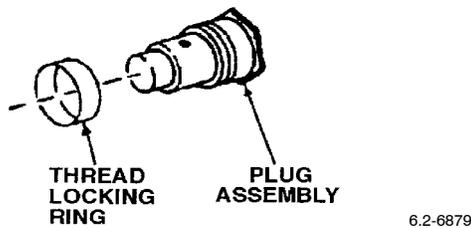

Figure 17. Install Thread Locking Ring
e. Install thread locking ring on plug between hex head and threads (Figure 17).